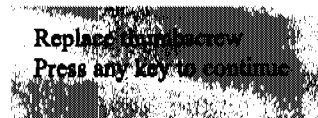

Figure 5.11. Replace thumbscrew message
16. Press any key. The display shows the following message (Figure 5.11).